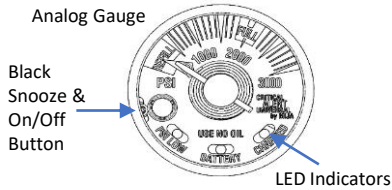

Figure 1. Critical Alert Universal Layout
1. The Critical Alert Universal from MIJA is completely assembled and ready to be installed onto an oxygen regulator. See Figure 1 below.
2. The Critical Alert Universal Assembly from Figure 1 can be installed onto an Oxygen regulator just as a standard pressure gauge would be. The Critical Alert Universal will fit most regulators using an 1/8" NPT fitting.
3. The Critical Alert Universal is now ready to use. The Critical Alert Universal needs to be switched on, the switch can be found on the lens of the housing as shown in Figure 1. Press the black button and release.
5. The **red** LED will flash and an audible alarm will sound when the oxygen level gets to 500 psi and lower. The black snooze button, see Figure 1., can be pressed (press and release) to silence the alarm while a new oxygen cylinder is sourced. See **Table 1** for the estimated minutes of available oxygen.
- Power the Critical Alert Universal down. (Press and hold black power button, shown in Figure 1, until all LEDs glow and alarm sounds)